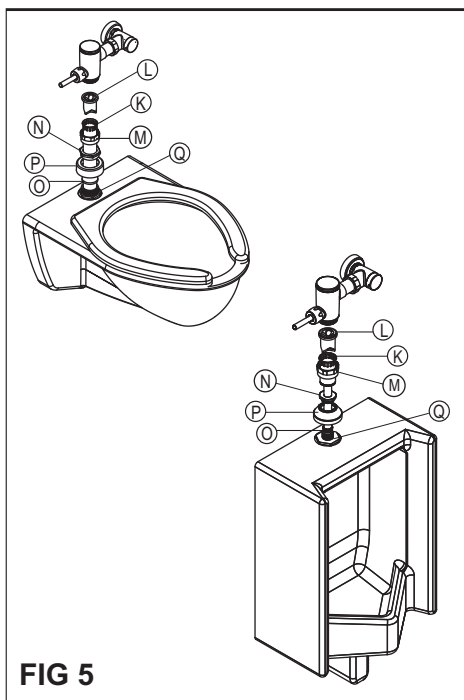

FIG 5
4 - Determine the length of vacuum breaker tube (K) required to join the flushometer valve and fixture spud, see fig 5. Cut the vacuum breaker tube, if required, to this length. Assemble the vacuum breaker (L) into the vacuum breaker tube. Slide the vacuum breaker nut (M), spud nut (N), rubber gasket (O) and spud flange (P) over the vacuum breaker tube. Insert tube into fixture spud (Q), align and plumb the valve assembly and tighten fixture spud nut, vacuum breaker tube nut and lock nuts with a wrench.